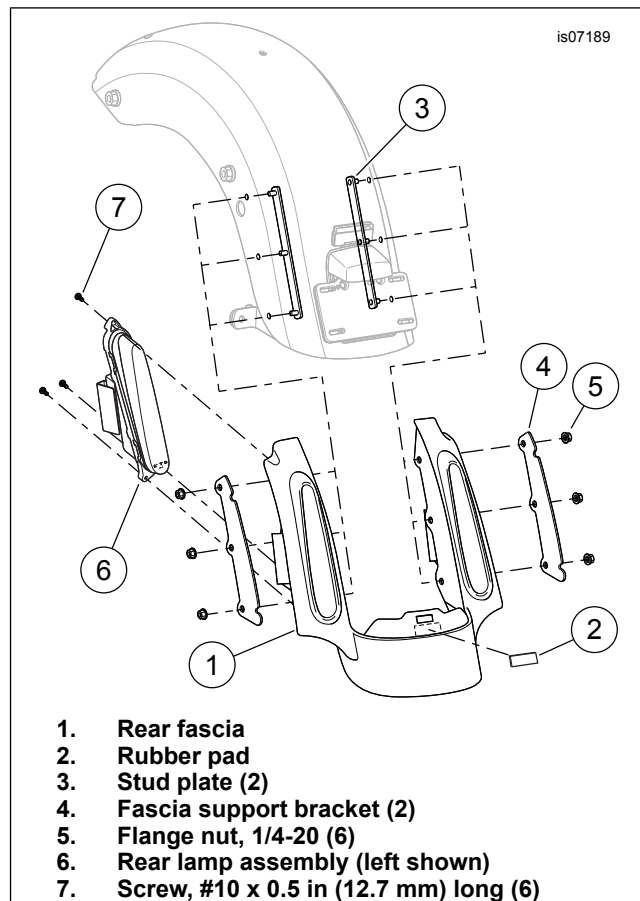

Figure 4. Rear Fascia Installation
2. See Figure 4. Remove the liner from the adhesive backing of the 44.5 x 19 x 1.6 mm ( x in) rubber pad (2). Position the pad to the center of the fascia (1), just below the slot as shown. Press firmly into place.
3. Position the fascia under the rear edge of the fender. Align the three holes on each side of the fascia with the mating holes in the fender. Insert the three studs of a stud plate (3), from beneath the fender, through the fender holes and fascia on one side.